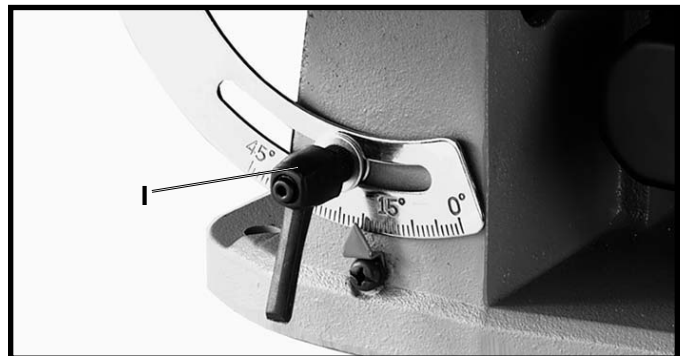

Fig. 8
5. Figure 8 illustrates table lock handle (I) assembled to machine.